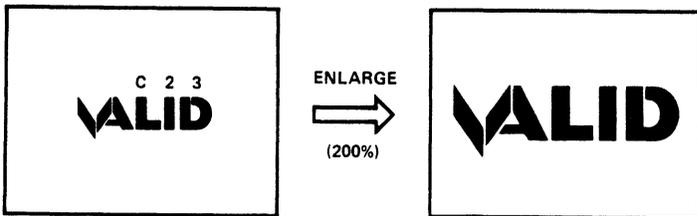

Figure 3-11. Zooming In and Enlarging
2. Move the cursor to the place on the drawing to be centered on the screen and press any button. An asterisk appears on the screen. This first point is labeled C (for center) in Figure 3-11.
3. Move the cursor to the right an inch (or so) and press any button. A second asterisk appears. This second point is labeled 2 in Figure 3-11.
4. Move the cursor to the right for an equal distance (about an inch) and press any button. This third point is labeled 3 in Figure 3-11.